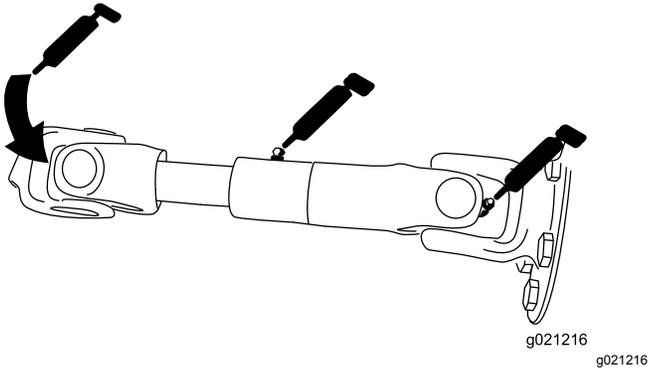

Figure 72
- Pump driveshaft (3) (Figure 72)